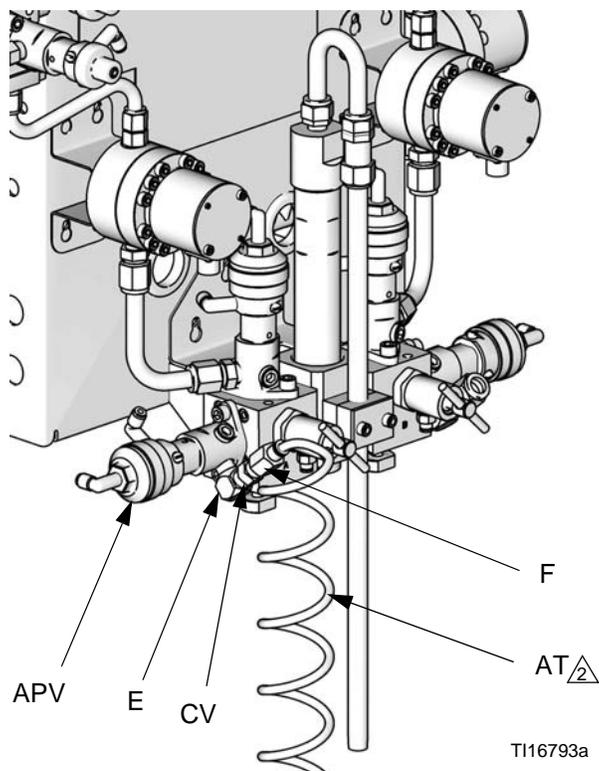

FIG. 9. Purge Air Supply Tube and Check Valve
- See FIG. 9. Install the supplied elbow (E), check valve (CV), and tube fitting (F) at the inlet of the air purge valve (APV). Use the 25 ft (7.6 m), 1/4 in. (6 mm) OD purge air tubing (AT, supplied) to connect a clean, dry air supply to the fitting (F) at the air purge valve inlet. Install filters/dryers as needed.
- Purge air line (AT) must be a separate air supply, connected to the check valve (CV). Do not connect the purge air line to the unit's main air supply or to the air manifold.